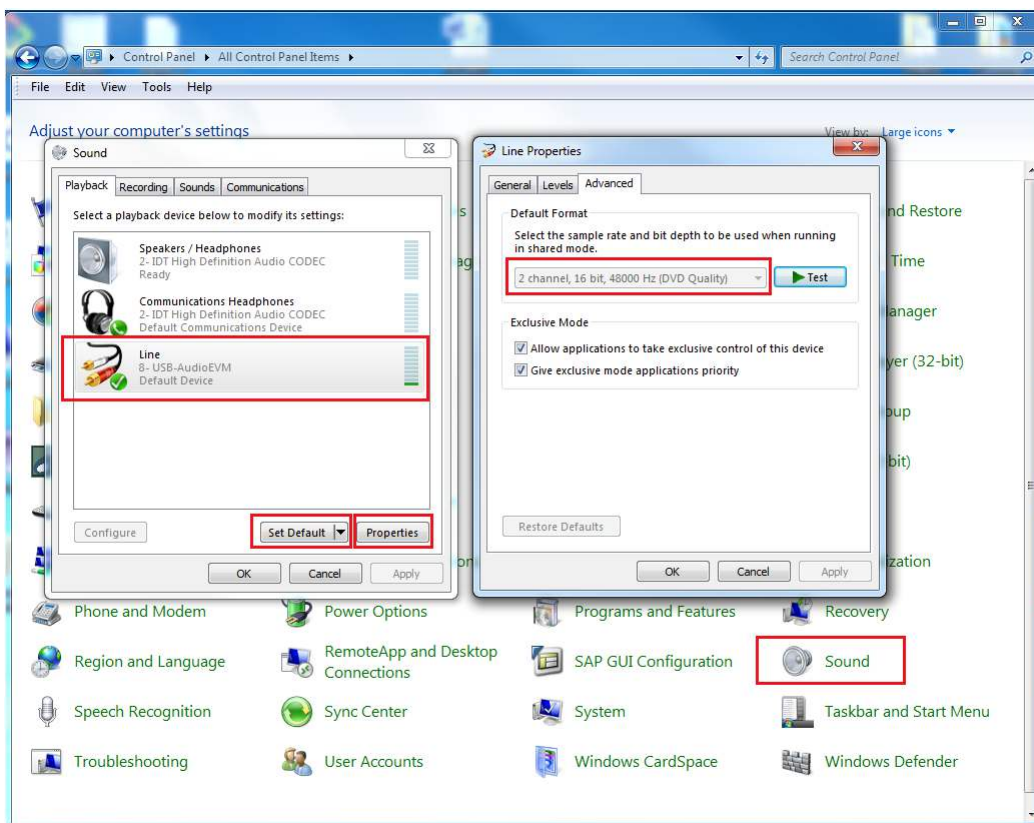

Figure 4. Default Format
- Step 5. Go to **Control Panel** → **Sound** and select *USB-AudioEVM* under the *Playback* tab. Click on *Set Default* to make it the default playback device. Click on *Properties* and under the *Advanced* tab, make sure that the *Default Format* is shown as *2 channel, 16 bit, 48000 Hz (DVD Quality)* in Figure 4.